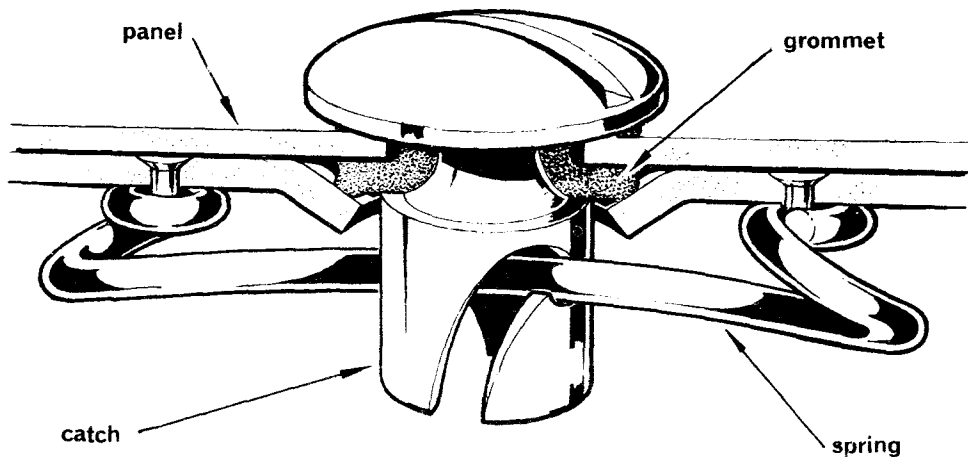

Fig. 12. Dzus fastener
9. **Dzus fastener.** The Dzus fastener (Fig. 12) consists of a catch and a spring. The catch is held in position on the detachable panel by a rubber grommet or a circlip. The spring is attached to the under side of the fixed component, usually by rivets. A helical slot in the body of the catch engages with the spring, drawing it up when the catch is given a quarter of a turn in a clockwise direction. The fastener is unlocked by a quarter of a turn anti-clockwise. A special Dzus key is used to operate the fastener.